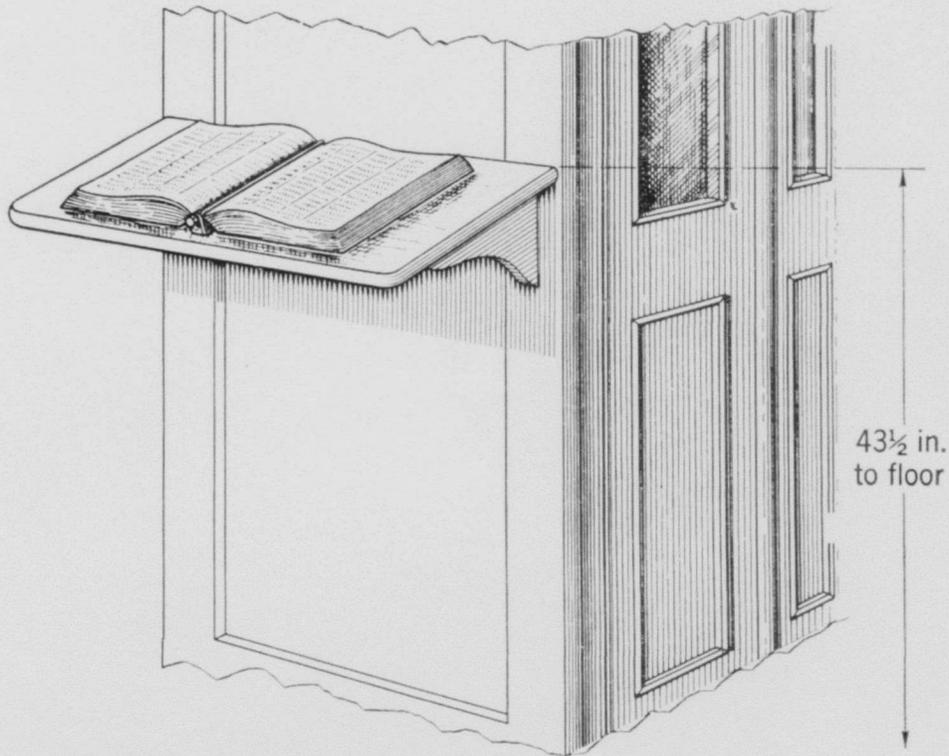

Fig. 6—Wood Shelf on Folding Door Booth
3.05 When installing 11- and 17-type shelves, a No. 10 FH bright wood screw should be placed in the middle of the mounting surface at a point  $42\frac{1}{8}$  inches above the floor. Leave sufficient room between the screwhead and the mounting surface to hang the shelf by means of the bracket. For the 12- and 13-type shelves, two screws are required and are placed  $6\frac{3}{4}$  inches apart and  $43\frac{1}{8}$  inches above the floor. Use  $1\frac{3}{4}$ -inch No. 10 FH bright wood screws for mounting the 11- or 17-type shelves on booths. For mounting the 12- and 13-type shelves on different wall surfaces, use the fasteners shown in the following table. Upper edge of shelf should be  $42\frac{1}{2}$  inches from the floor. Fig. 6 shows typical installation of shelf on a booth.